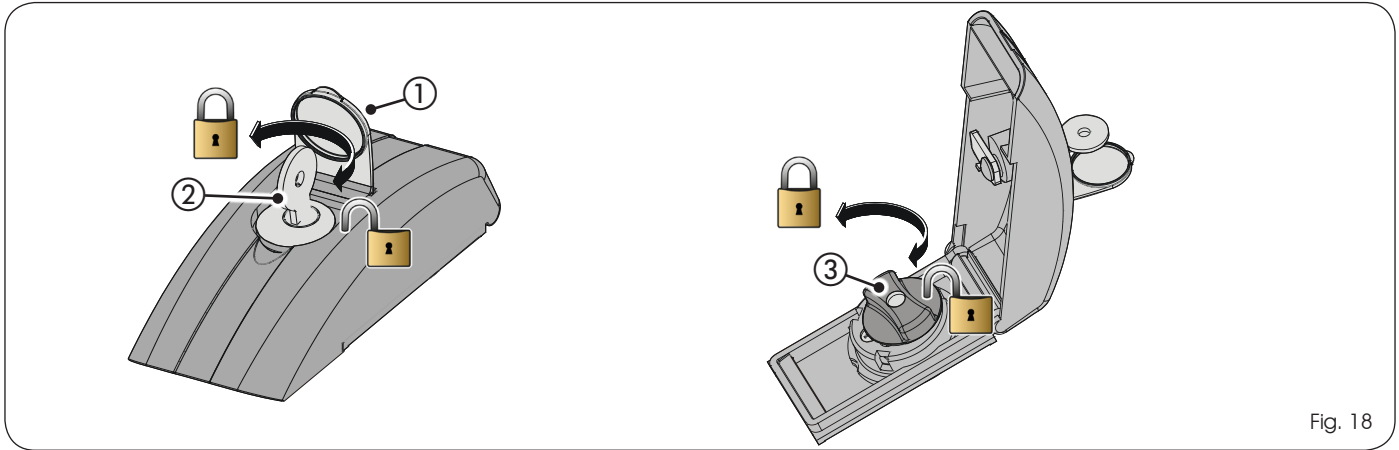

Fig. 18
1) Lift the protection lid (Fig. 18, ref. ①) and insert the key in the lock (Fig. 18, ref. ②).
2) Turn the key 90° clockwise to open the cover and lift it.
**3) Turn the release knob (Fig. 18, ref. ③) anticlockwise until it stops.**